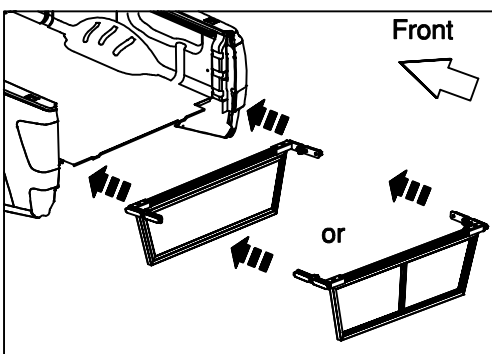
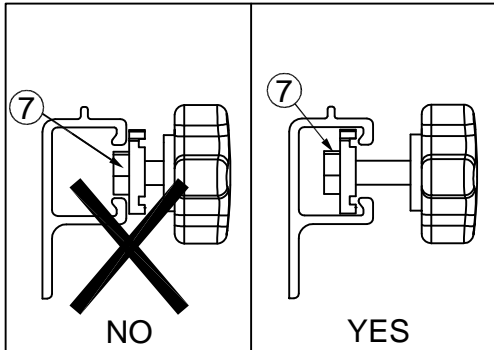

Fig. 4
Fig. 5
7. With the tailgate down, slide the Mounting Brackets (#2 & #3) into the rail channels on the side of the box. Be sure the Anchor Plate (#7) is inserted into the utili-track and not outside of the utili-track. (See Fig. 4 and Fig. 5)